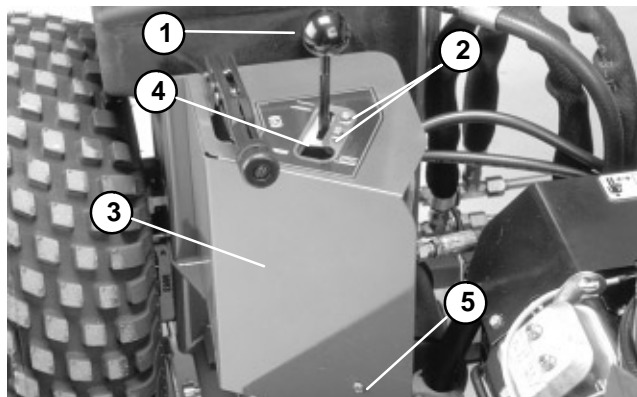

Figure 26
3. Remove knob from the lift lever. Remove both lock nuts and cap screws securing the lift valve shroud, lift lever guide, and lift lever latch (Fig. 26).
4. Remove bottom front cap screw securing the lift valve shroud to the frame. Pull shroud from the frame (Fig. 26).
9. Secure top of lift valve shroud, lift lever guide, and lift lever latch to the frame with both cap screws and lock nuts. Make sure nylon lift lever guide is placed on top of metal lift lever latch (Fig. 26).
10. Secure bottom of shroud to frame with cap screw. Screw knob onto lift lever (Fig. 26).